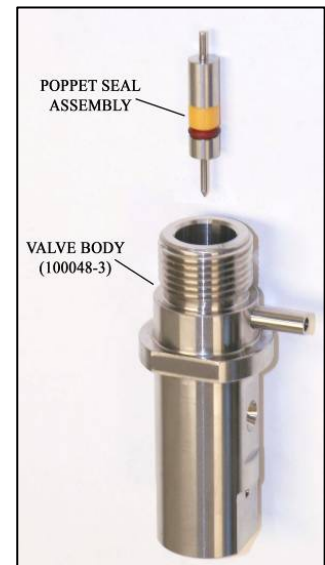

Figure 7
16. Insert the Poppet and Seal Assembly into the actuator end of the Valve Body, pointed tip first. **See Figure 7**